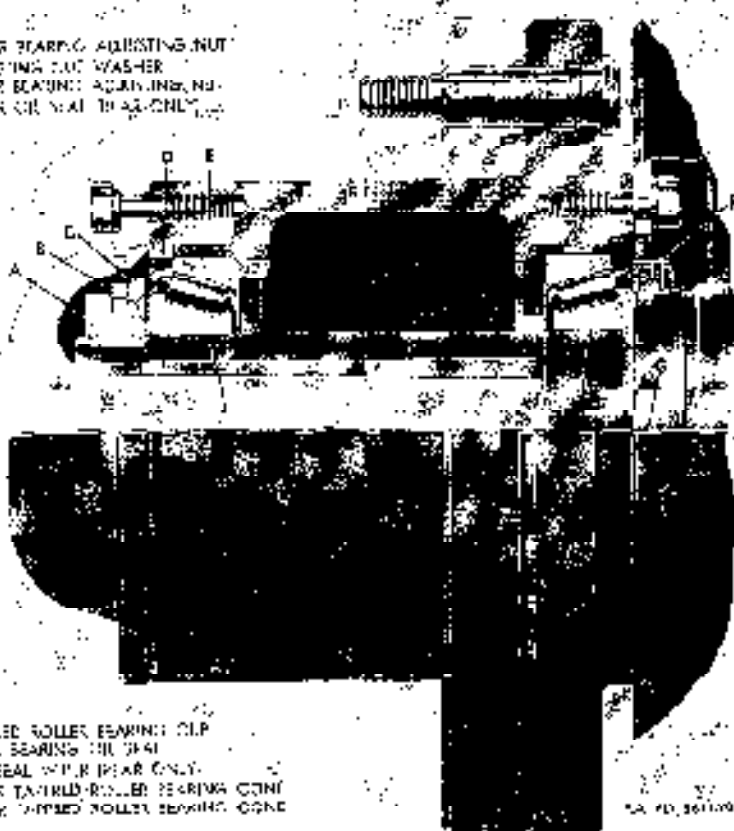

Figure 257. Exploded view of tire assembly—see illustrating
b. *Hubs.* All hubs (fig. 257) are mounted on opposed tapered roller bearings. Each hub is secured to its axle with an inner bearing adjusting nut, bearing nut washer, and outer bearing adjusting nut.
(b) Remove inner bearing oil seal (F, fig. 257) and inner tapered-roller-bearing cone (H, fig. 257) from hub.
(3) *Cleaning and inspection.* Clean both inner and outer tapered-roller-bearing cones (par. 68d(3)). Inspect cones for excessive wear or other defects which would prevent smooth operation, and replace if necessary. Inspect bearing cups (E, fig. 257) in hub bores for wear, scoring, or distortion, and replace if necessary (6 below).
(b) Install inner bearing oil seal (F, fig. 257) and inner tapered-roller-bearing cone (H, fig. 257) on spindle.
(b) Using a puller, remove outer bearing cap (E, fig. 257) from hub.
(a) Lay hub and drum assembly flat with outer end facing up, position outer tapered roller bearing cap (E, fig. 257) in hub bore, and press cap into place against shoulder in bore.
- (d) Remove outer bearing oil seal (I, fig. 257) from hub outer bore (rear axles only).
- (e) Remove outer tapered roller-bearing cone (J, fig. 257).
- (b) Install hub and drum assembly (fig. 260) on axle spindle so that inner tapered roller-bearing cone (H, fig. 257) and inner bearing oil seal (K, fig. 257) enter hub inner bore.
- (c) Install outer tapered-roller-bearing cone (J, fig. 257) in hub outer bore against outer tapered roller-bearing cup (E, fig. 257).
- (d) Install outer bearing oil seal (I, fig. 257) on spindle against cone (rear axles only).